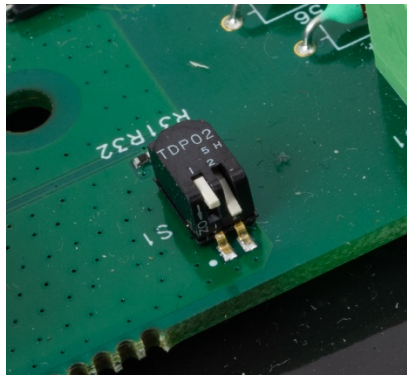

Figure 4-6: Metrology Switches SW1 OFF, SW2 ON
2. Turn SW1-2 to ON, as shown in Figure 4-6.